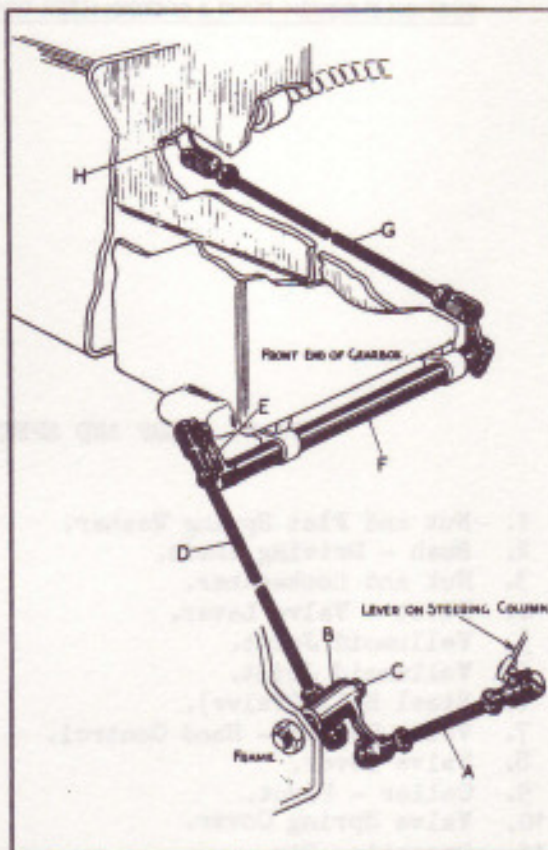

FIG. 5. CONNECTIONS "RIDE" CONTROL.
- (i) The length of the rod (A, Fig.5, Steering Column to bellcrank lever, B, of the frame countershaft) is adjusted so that the longer arm of the bellcrank lever, B, swings equally either side of the perpendicular from the rod through the bellcrank pivot, C, when the hand control lever on the steering column is moved from the normal to the hard ride position.